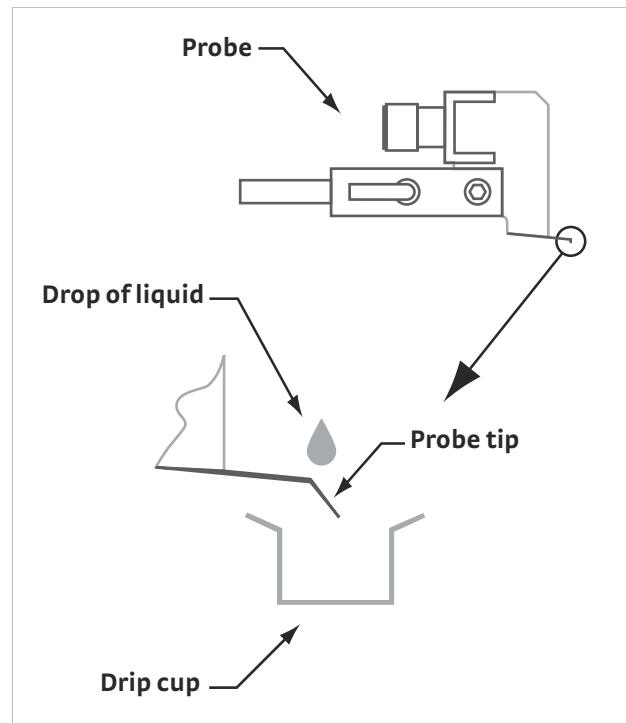

FIGURE 6-1 Method for cleaning probe tips
3. Wearing gloves, dispense one full-strength drop of liquid tarnish remover just above the probe tip, letting the cleaner run down the tip and into the drip cup (FIGURE 6-1). Do not allow the cleaner to contact any part of the probe body.